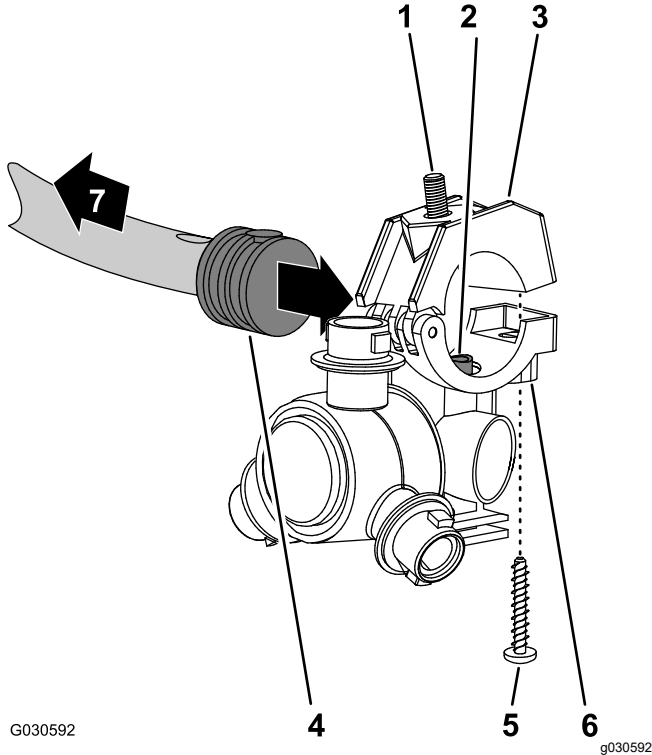
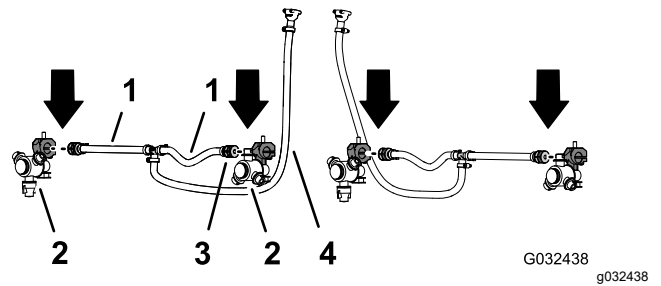

Figure 80
Figure 81
- Working with the sprayer nozzles that you removed in 12 Removing the Sprayer-Nozzle Hoses for the 3-Section System (page 32), remove the stainless steel screws that secure the upper clamp halves to the saddles (Figure 80).
- Locate the hole in the side of single barbed-hose shank at the end of the hose 25 cm (10 inches) of the hose assembly (sprayer valve 5 or 6) for the center-boom section (Figure 80 and Figure 81).
- Align the transfer tube in the saddle of a sprayer nozzle (Figure 80) with the hole in the side of the single barbed-hose shank (1/2 inch).
- Close the upper clamp half around the barbed-hose shank and spray-nozzle body (Figure 80) with the stainless steel screw (#12 x 1-1/4 inches); torque the stainless steel screw to 226 to 282 N·cm (20 to 25 in-lb).
- Repeat steps 2 through 4 to the single barbed-hose shanks of the other hose assemblies (sprayer valve 5 or 6) for the center-boom section (Figure 80 and Figure 81).